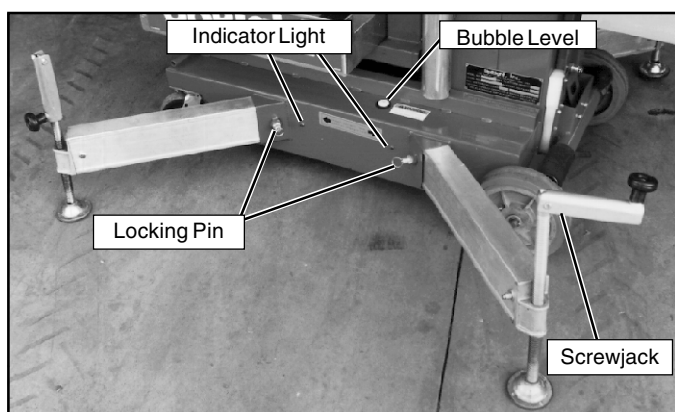

Figure 1: Installing outriggers
2. Insert into outrigger socket in base (Figure 1).
4. Repeat the above steps for all other outriggers. Make sure all four (4) locking pins are engaged.
5. Level the base, centering the bubble in the orbit level on the base by adjusting the screwjacks at the end of each outrigger (Figure 1). DO NOT release the tension on an outrigger, by turning counterclockwise, to level base.
6. **All four (4) screwjack pads must be in solid contact with a firm surface and each outrigger indicator light must be lit before the platform is elevated.**